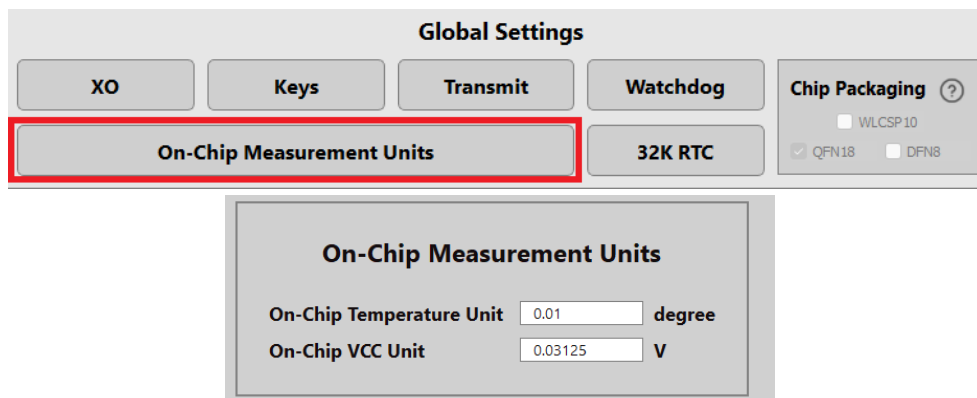

Figure 10 : On-chip temperature and VCC unit setting
- **VCC:** The measured 8-bit chip’s supply voltage. One LSB corresponds to 0.03125 volts by default, unless the user changes the unit to a different number using the “On-Chip Measurement Units” tab shown in Figure 10.
- **Internal Temperature (default 2 bytes):** The measured 16-bit temperature using the internal temperature sensor inside the chip. It is in 2’s complement format in units of 0.01 degree Celsius unless the user changes the unit to a different number using the “On-Chip Measurement Units” tab shown in Figure 10. If 1 byte is entered for the temperature value representation, the user should change the unit as shown in Figure 10 to avoid overflow due to short word-length.